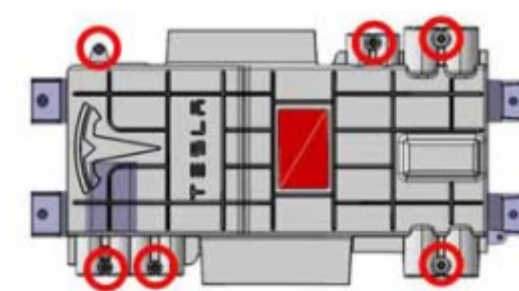

Figure 5
b. Remove the remaining fasteners (x6) that secure the HVJB cover (Figure 5).